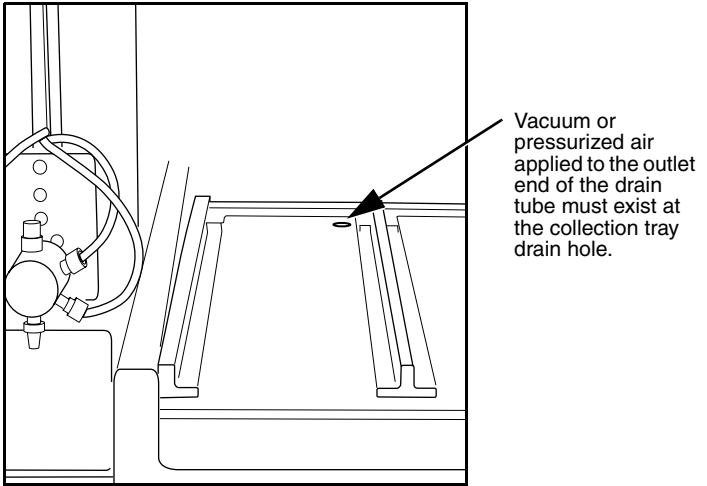

Figure 7-1 Collector tray drain hole
2. Test the collection tray drain and top shelf drain by connecting a vacuum or air supply source to the outlet end of the drain tubes. Then, verify the presence of such vacuum or air supply source on the drain hole (Figures 7-1 and 7-2).